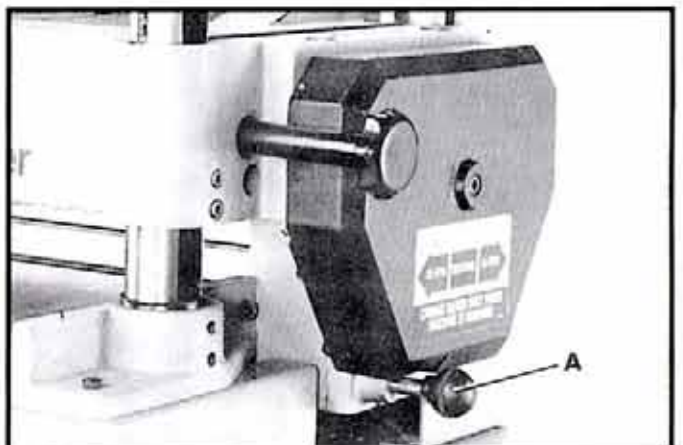

Fig. 22
When the shifter knob (A) Fig. 22, is in the center (neutral) position as shown, the feed rolls are disengaged and the machine will stop feeding.